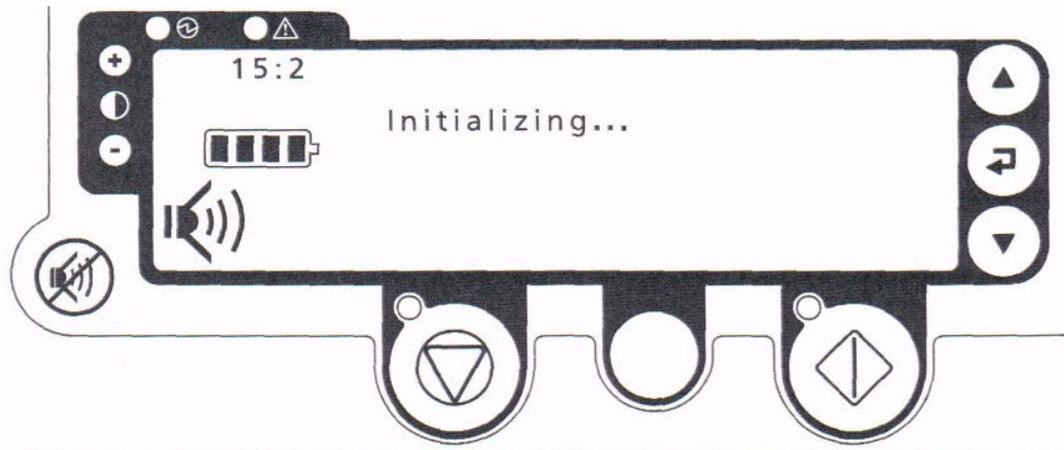

Figure 3-2 Self-Test Display Panel Screen
2. The AutoPulse Platform illuminates the green Power light-emitting diode (LED) on the User Control Panel and performs its self-tests (see Figure 3-2). Refer to the User Control Panel and its display panel during the operation of the AutoPulse Platform. All operating information is available on the User Control Panel.